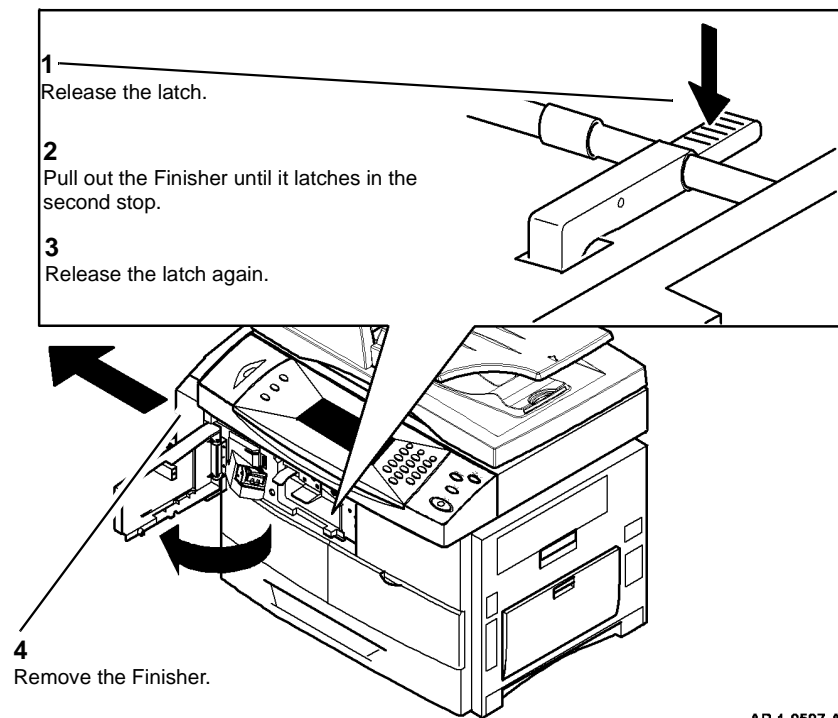

Figure 1 Removing the Finisher
4. Remove the Finisher (Figure 1).